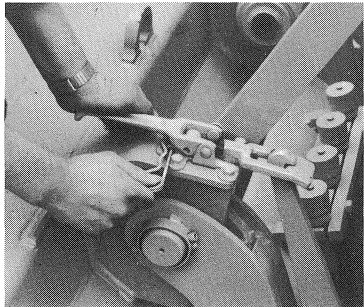

Fig. 23
- (3) Insert lug of the tension jack into clamping lever and tense. Put locking pin into tension jack (Fig. 23).